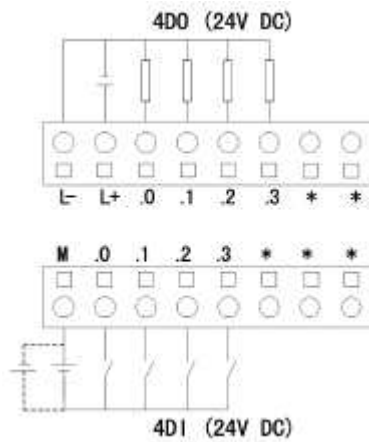

Figure 3-1-13 LM3231 Terminal Definition & Wiring
- M end of DI channel in Figure 3-1-13 is the common end of external DI, user can choose to connect M end to the positive or negative end of 24VDC sensor power supply to adapt to source/sink DI.
- L end of DO channel in Figure 3-1-13 is the output load drive supply terminal. It can be either DC or AC supply.